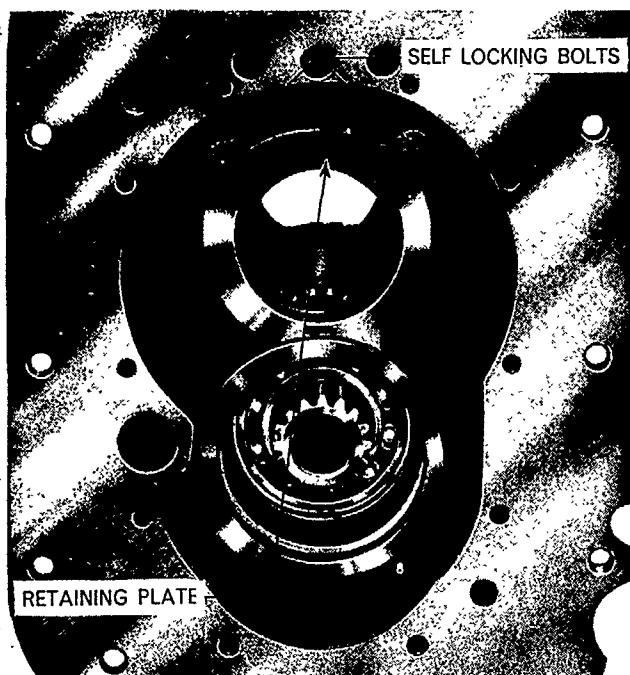

Figure 29
1. Remove the two self-locking bolts, Figure 29, holding the mainshaft rear bearing retaining plate onto the transmission case, and remove the retaining plate.
2. Position the mainshaft rear bearing retaining plate, secure with the two self-locking bolts, Figure 29, and tighten to the specified torque. (See Specifications, Chapter 2.)